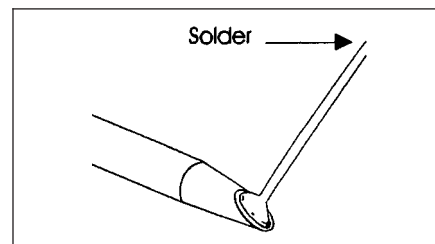

Figure 4 Fill Tip
7. Apply solder to tip to create a bead of molten solder. (See Figure 4.)